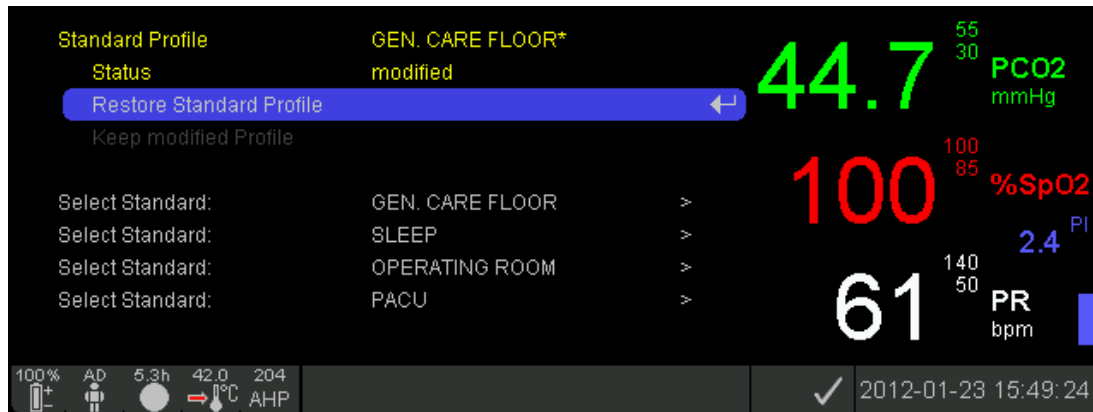

Figure 9 Sub-menu 'Profiles'
- to the sub menu 'Profiles' (Figure 9) if the settings from LAST use and those of the selected 'Standard Profile' are different when the SDM is configured in 'Institutional Mode' (4.7.3).
In the menu of the SDM, the operator during subsequent use can configure all menu parameters (4.7.4.2) on an individual basis at the bed-side. Thereby, operator access to certain menu parameters can be disabled or restricted by the Responsible Organization (4.7.4.1) or, depending on the specific context, by the SDM itself. If the SDM is used in 'Institutional Mode' (4.7.3), the operator can restore the selected 'Standard Profile' or select/activate one of the other profiles stored in the SDM in the sub menu 'Profiles' (Figure 9, Table 50) at any time. This sub-menu is easily accessible via a shortcut in the Quick Access Menu (4.2.5.3, Figure 7) if the sensor is in the Docking Station. Furthermore, if at power-up of the SDM the settings from previous use are different from those of the 'Standard Profile', the sub-menu 'Profiles' is automatically activated, thereby offering the option to restore the 'Standard Profile', to select another 'Profile', or to keep the modified profile.
Note: In 'Basic Mode' no 'SDM Profiles' can be stored on the SDM. In 'Basic Mode' the sub-menu 'Profiles' (Figure 9, Table 50), consequently, is not accessible and no profile name will display on the 'Ready for use/Calibration' screens (4.2.4) and in the main menu (Table 36).
In the sub-menu 'Profiles' (Figure 9, Table 50) – which is easily accessible via a short-cut in the Quick Access Menu if the sensor is in the 'Docking Station' (4.2.5.3, Figure 7) - the operator can at any time restore the 'Standard Profile' or select/activate therein one of the other 'SDM Profiles' stored on the SDM as 'Standard Profile'.
Note: On the SDM, the name of the selected 'Standard Profile' is displayed on the 'Ready for use/Calibration' screen (4.2.4), in the main menu (Table 36), and in the sub-menu 'Profiles' (Figure 9, Table 50). An asterisk appears behind the profile name if at least one of the SDM's current settings differs from its setting in the selected 'Standard Profile' (an example is shown in Figure 9).